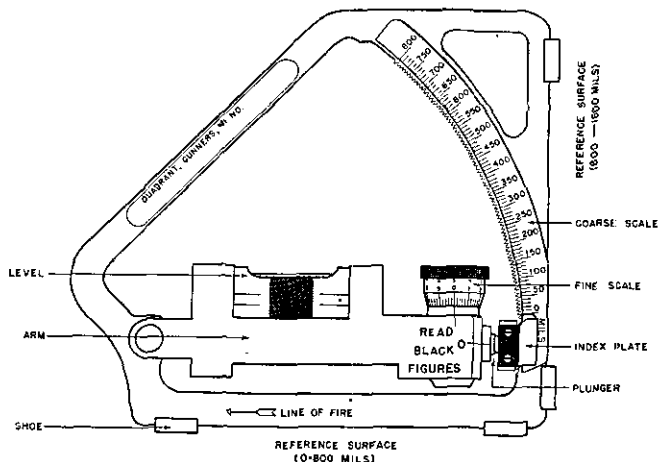

FIGURE 35.—Gunner's quadrant.
■ 61. INSTRUMENTS FOR INDIRECT LAYING.—*a. Gunner's quadrant.*—Each medium tank is equipped with a gunner's quadrant (figs. 35, 36). This device contains a bubble and a mil scale which permits the gun to be laid accurately for elevation.